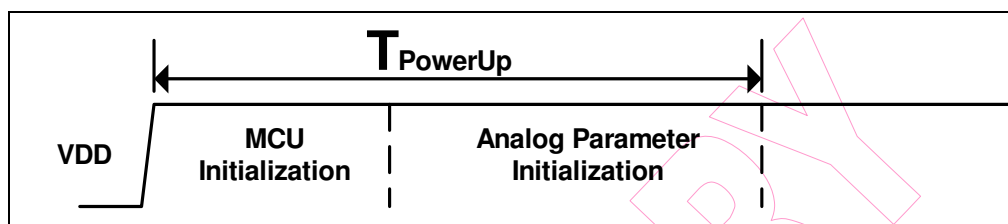

Fig. 7-1 Power-on Reset Timing Diagram
A. Power-on reset: After the touch pad is powered up, this controller will do initialization. The initialization includes MCU and analog parameter initialization. After the initial process, it will send Packet Hello to let the host know that the touch pad is ready to work. Fig. 7-1 shows the process after power up. TPowerUp is between 20ms and 100ms.